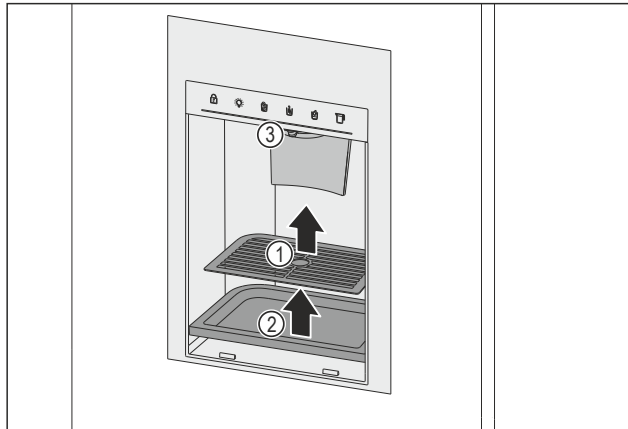

Fig. 167 Removing the drip grid and drip pan
- ▶ Remove the Fig. 167 (1) drip grid.
- ▶ Remove the Fig. 167 (2) drip pan.
- ▶ Clean the drain Fig. 167 (3) and the surrounding area with a soft, clean cloth, lukewarm water and some dishwashing detergent.